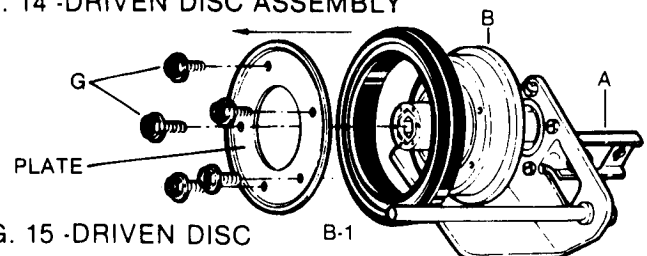

FIG. 15 -DRIVEN DISC
Remove the five machine screws (G) and plate securing the driven disc rubber ring (B-1) to the hub (B) and replace the ring as shown in FIG. 15. Reverse procedures for re-assembly and installation.